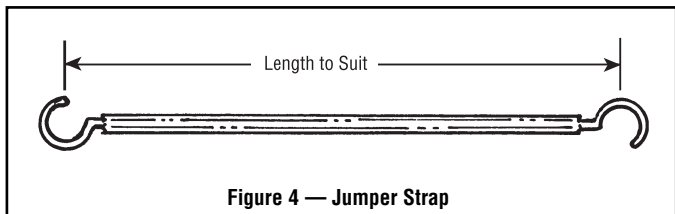
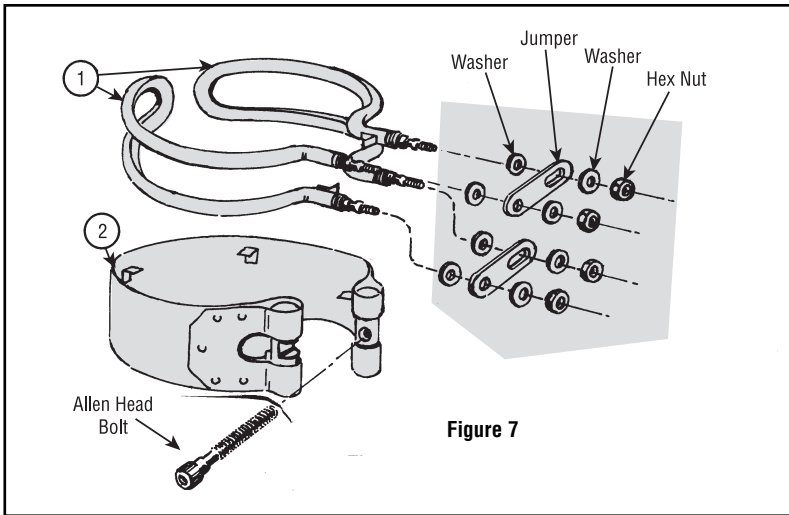

Figure 4 — Jumper Strap
Figure 7
2. Assemble terminal hardware and wiring in the order shown in Figure 7 on next page. Note: In applications where jumper strap(s) provided is (are) too short, fashion a wire jumper (See Figure 4) to the correct length.